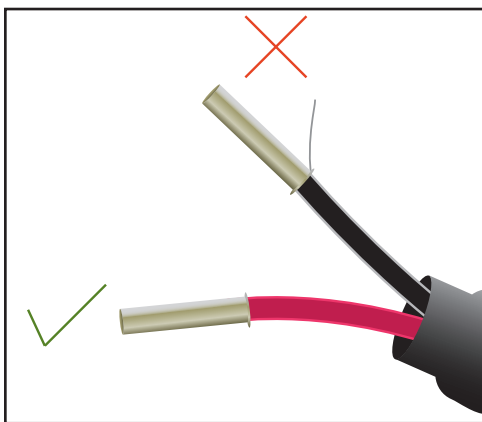

Figure 15 *Crimped Wires*
- a. As shown in *Figure 15* below, the crimps/wire ferrules should be applied so that there is no possibility of a conductor strand of a core becoming free.